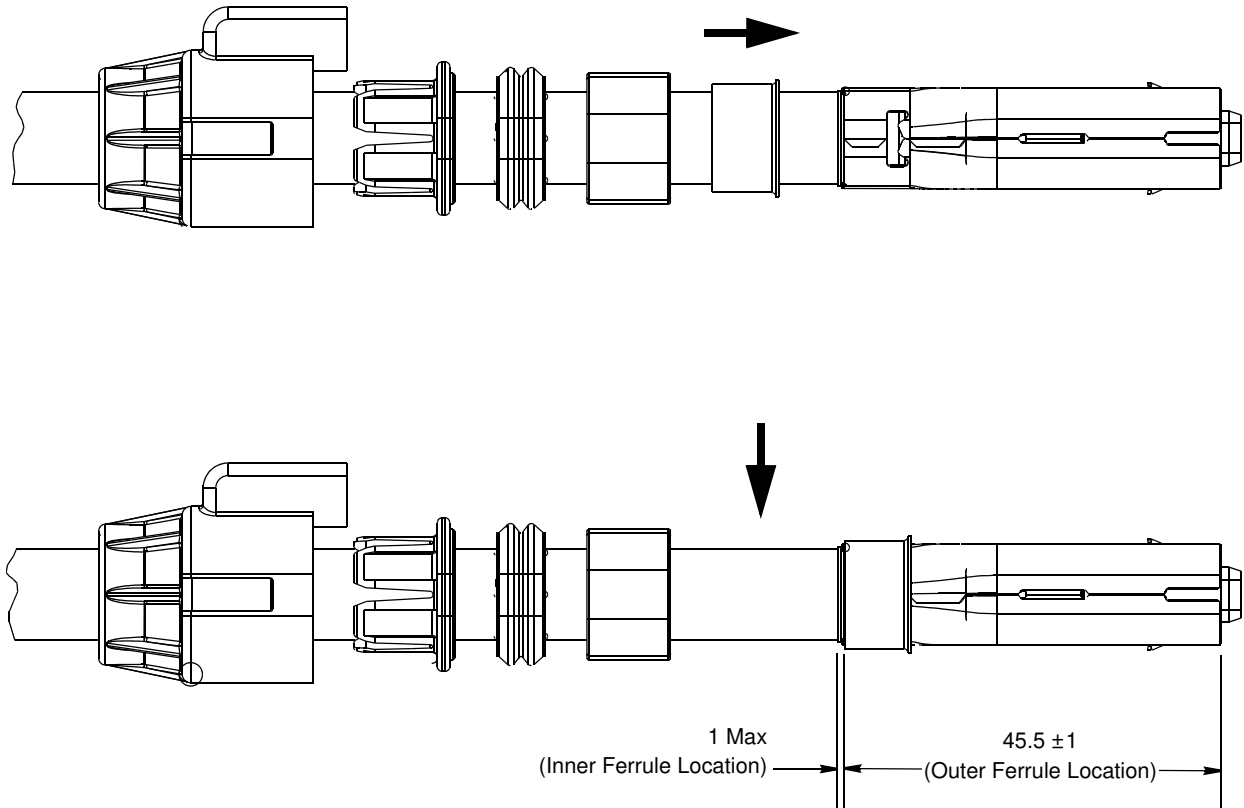

Figure 16
15. Slide the outer ferrule forward into position over the overlapping ends of the connector shields as shown in Figure 16.